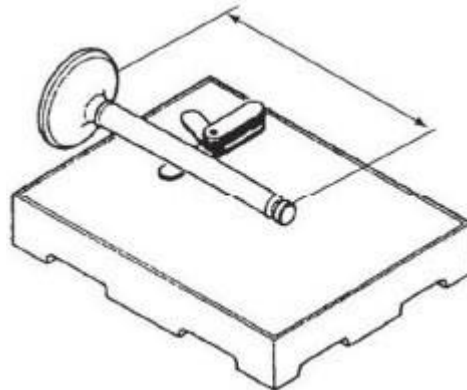

Figure 61. Valve Inspection Block
4. Place the valve stem on a flat inspection block or layout bed. Roll the valve until a gap can be observed between a portion of the valve stem and the surface of the block or bed. Use a feeler gauge to measure the gap (Figure 61). See *Intake / Exhaust Valve and Guide* chart for the service limit.